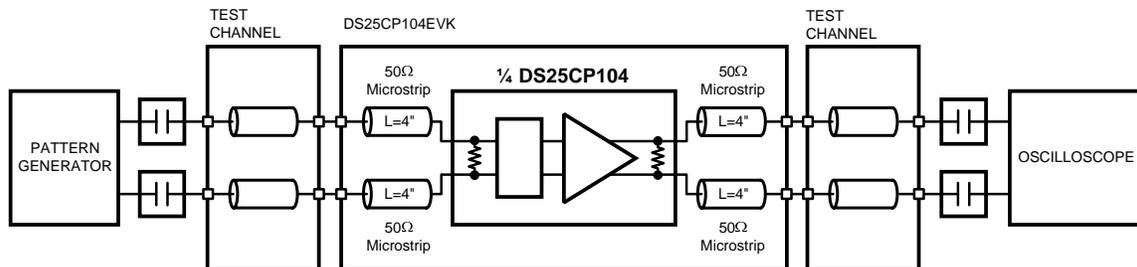

**Figure 6.** Equalization Performance Test Circuit
1. Configure the test setup as shown in Figure 6; select the desired test channel, lengths in Table 7.